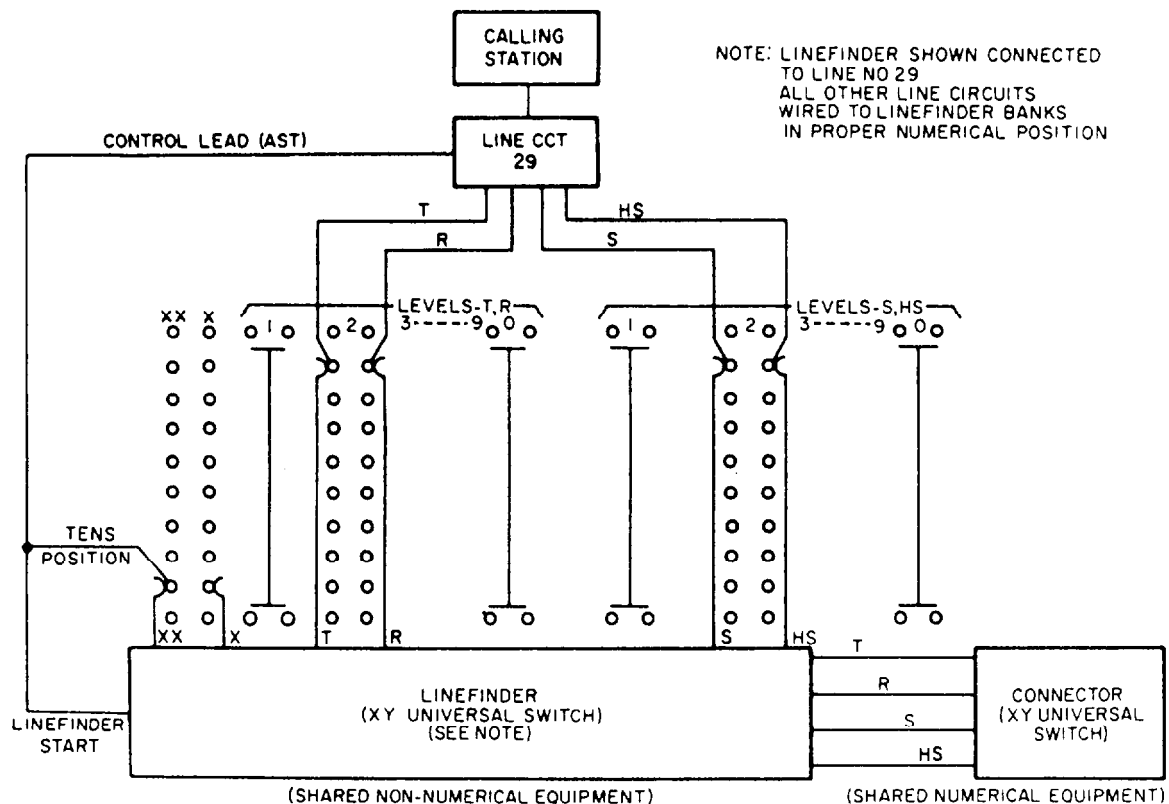

Figure 6-36.—Block diagram of linefinder operation.
**LINEFINDER.**— Figure 6-36 illustrates the basic principles of linefinding. For the sake of simplicity, the allotter is not shown. When the calling party operates the hook switch by removing the handset from the cradle, the line circuit sends a
Only one linefinder is shown in figure 6-36. When other calls are made simultaneously from other stations, additional linefinders must be available. The